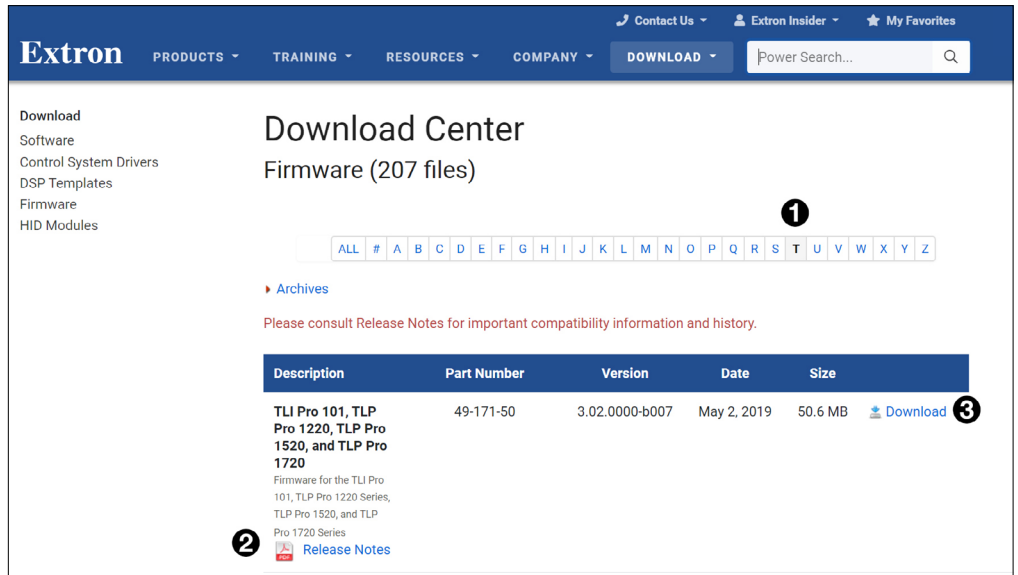

Figure 22. Selecting Firmware to Download.
3. Click the letter **T** from the list of letters (see figure 22, ❶).
5. (Optional) Click **Release Notes** (see figure 22, ②, for more information about the firmware.
6. Click **Download** (③).